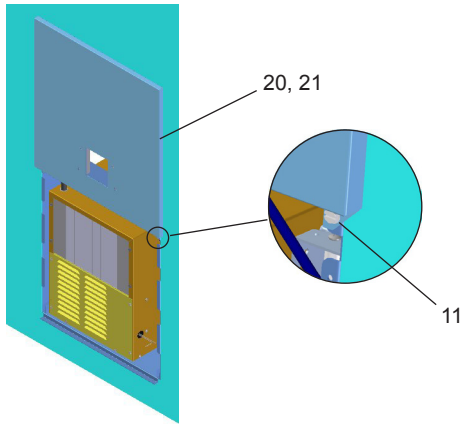

Figure 5 - Upper Panel Installation
5. **Hang** the upper panel on the mounting frame hanger. Be sure that the panel is engaged with hanger at the top of frame before releasing it. Align holes in the panel with holes in the mounting frame. Install two (2) #10-24 x 5/8" (16mm) screws (Item 11 - Figure 5) in holes and tighten securely.